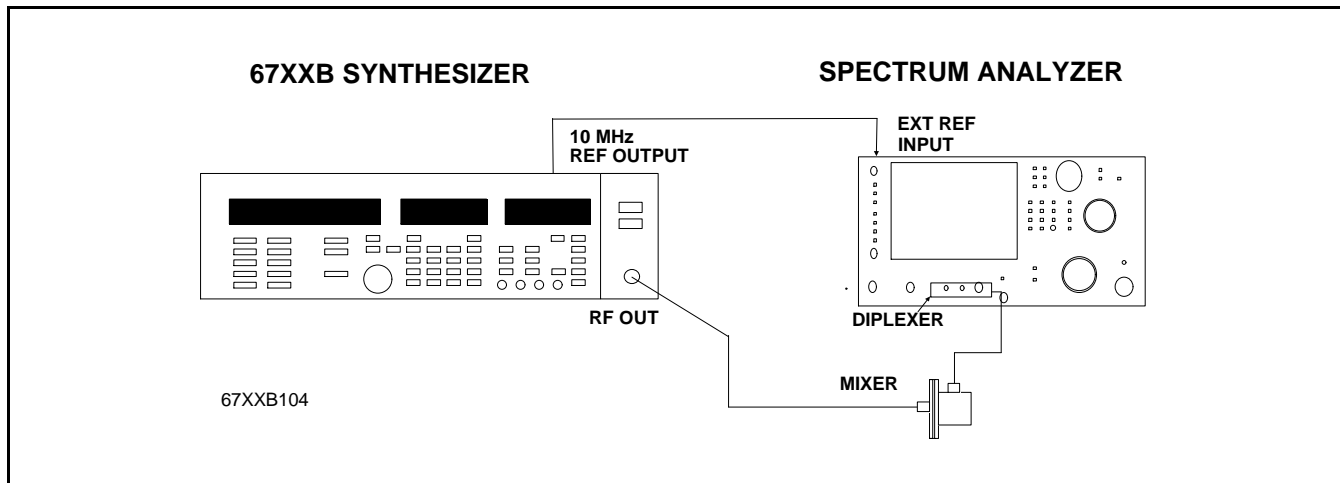

Figure 2-11. Equipment Setup for Harmonic Test: RF Output Signals From 40 to 60 GHz
1. Connect equipment as shown in Figure 2-11.